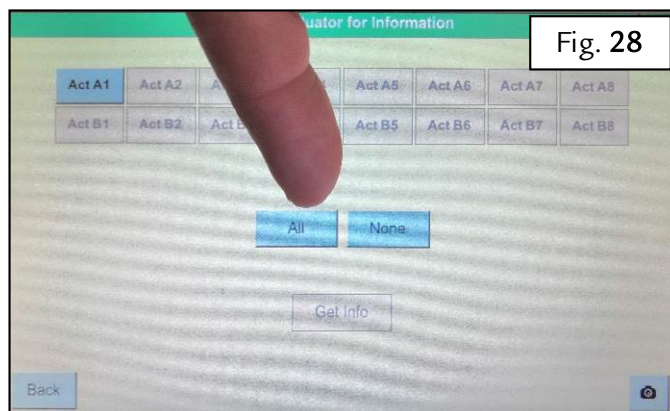

Fig. 27
- As a final check to ensure that the update has been installed correctly, press “Actuator Info” - Fig. 27.